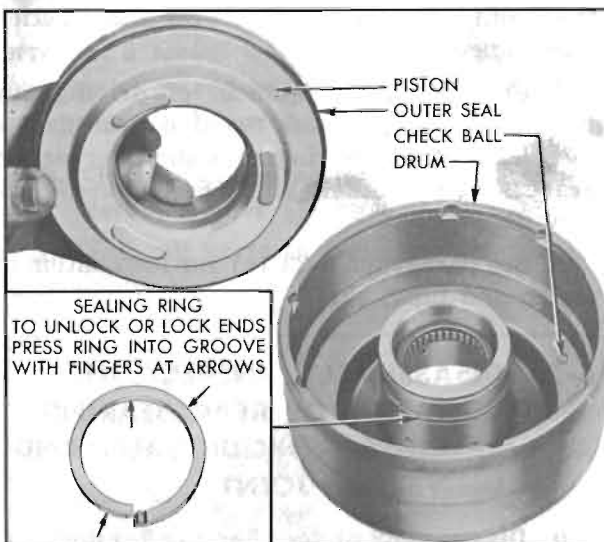

Figure 5-74—Removal of Clutch Piston and Oil Sealing Ring
3. Inspect drum for cracks or scores. Inspect oil sealing ring on hub of drum and replace if damaged. To remove ring, apply finger pressure at points indicated by arrows in figure 5-74, in order to unlock the ends by depressing one end and raising the other. Use the same method to lock the ends during installation of new ring.